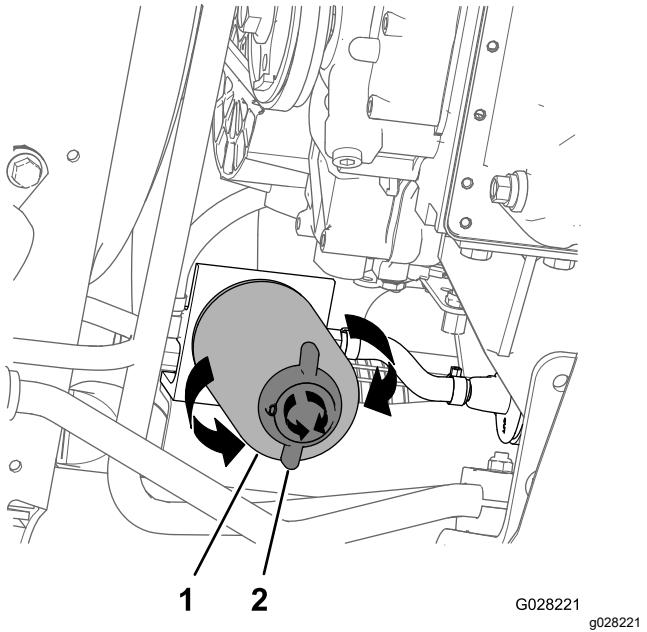

Figure 80
4. Align a drain pan under the fuel filter; refer to Figure 80 in Replacing the Water-Separator Filter \(page 62\).
2. Place a drain pan under the water-separator filter (Figure 80).
3. Rotate the drain valve at the bottom of the water-separator filter counterclockwise (Figure 80).
4. Clean the area around the water-separator filter and filter-adapter mount (Figure 80).
5. Remove the water-separator filter (Figure 80).
9. Ensure that the drain valve at the bottom of the water-separator filter is rotated clockwise tightly (Figure 80).